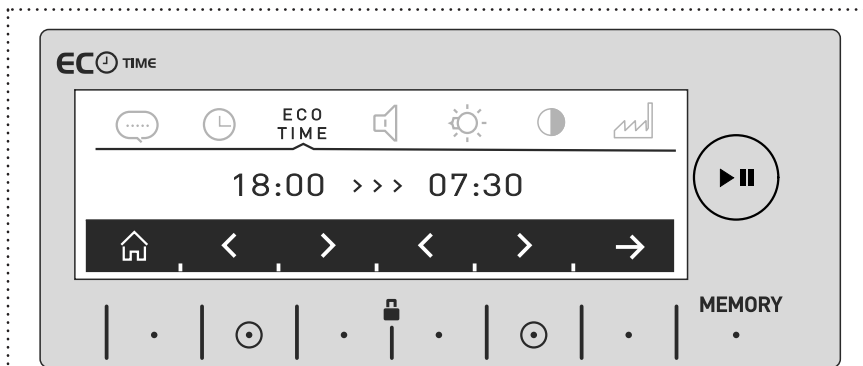

Figure 13
- » ^{ECO TIME} and the start and end time of the economic time interval will be displayed on the information screen (fig 13).